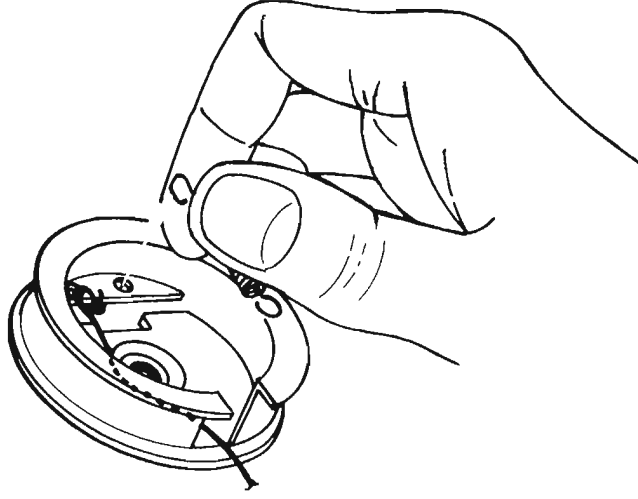

Fig. 2-11-1 Dial Cord Stringing Start and Finish Point
- (d) Tie one end of the cord to one of the holes in the drive drum and hook the spring onto the other hole. See Fig. 2-11-1. Install the drum and tighten its holding screw.